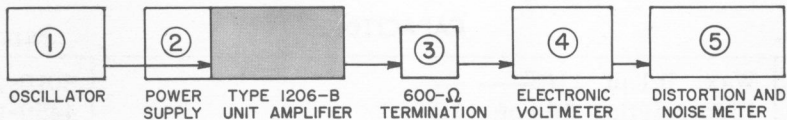

Figure 7. Calibration Test Setup.
**3.4.1 TEST SETUP.** For a description of the connections necessary for a complete calibration of the Type 1206-B Unit Amplifier, see Figure 7.